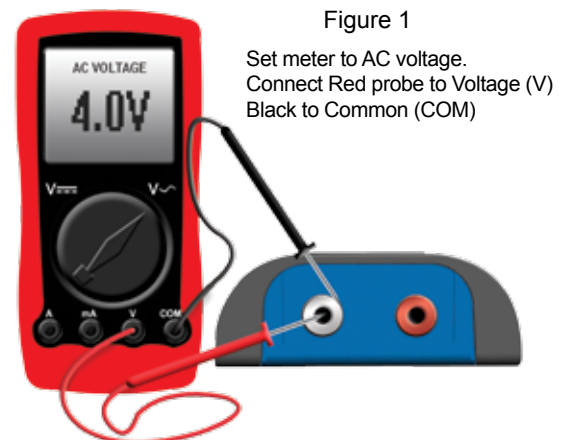

Figure 1
3. Choose either left or right channel - With multi-meter, test output of LP5-2. Probe with negative on RCA shield and positive in center of RCA output. (figure 1)